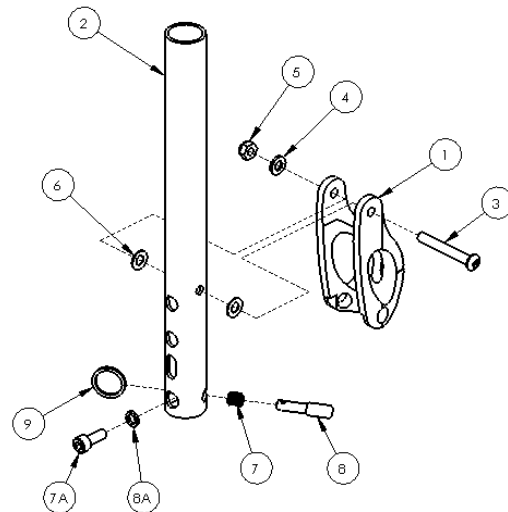

FIGURE 1
3. If you have a fold down backrest, press large end of locking pin (item 8) toward tube and unwind key ring (item 9) from locking pin, remove spring (item 7) and locking pin. CAUTION: Pin is spring loaded, so remove with care. If you have a non-folding backrest, remove socket head screw (item 7A) and lockwasher (item 8A) Figure 1. Save all hardware.
4. Remove button head screw (item 3), washer (item 4), nut (item 5), and plastic washers (item 6). Remove and discard backrest tube (item 2), save hardware.
5. Install new back tube (item 14) using button head screw, washers, and nut saved from step 4. Be sure to install plastic washers between backrest tube and inside surface of back spline (items 1 & 6). Tighten nut enough to eliminate play while allowing backrest to fold easily.
6. Install new armrest receiver (item 15) to back post with button head screw (item 16). Screw into rivnut (item 17) at bottom of post.
7. If you have a non-folding back, you must replace socket head screw (item 7A) and lockwasher (item 8A) at this time. Orient the plug (item 11) with a screwdriver such that the threaded holes in the plug align with the holes in the backrest.
8. If you have a folding backrest, re-install locking pin and spring by sliding spring over thinner shank of pin and sliding spring-end first through the larger diagonal hole near the bottom of the tube (you may need to move back spline, item 1, out of the way). Press small end of pin through smaller diagonal hole in tube and hold pin in this position. Re-wind the key ring into hole in the locking pin.
9. Slide 3 point armrest into receiver (items 18 & 15). Snap back tube saddle (item 19) onto back tube.
10. Slide front receiver (item 20) onto side rail and line up with last two consecutive holes on center tube. Install screws (item 21) through front receiver and side rail, secure with washers and nuts (items 22 & 23). Tighten securely.